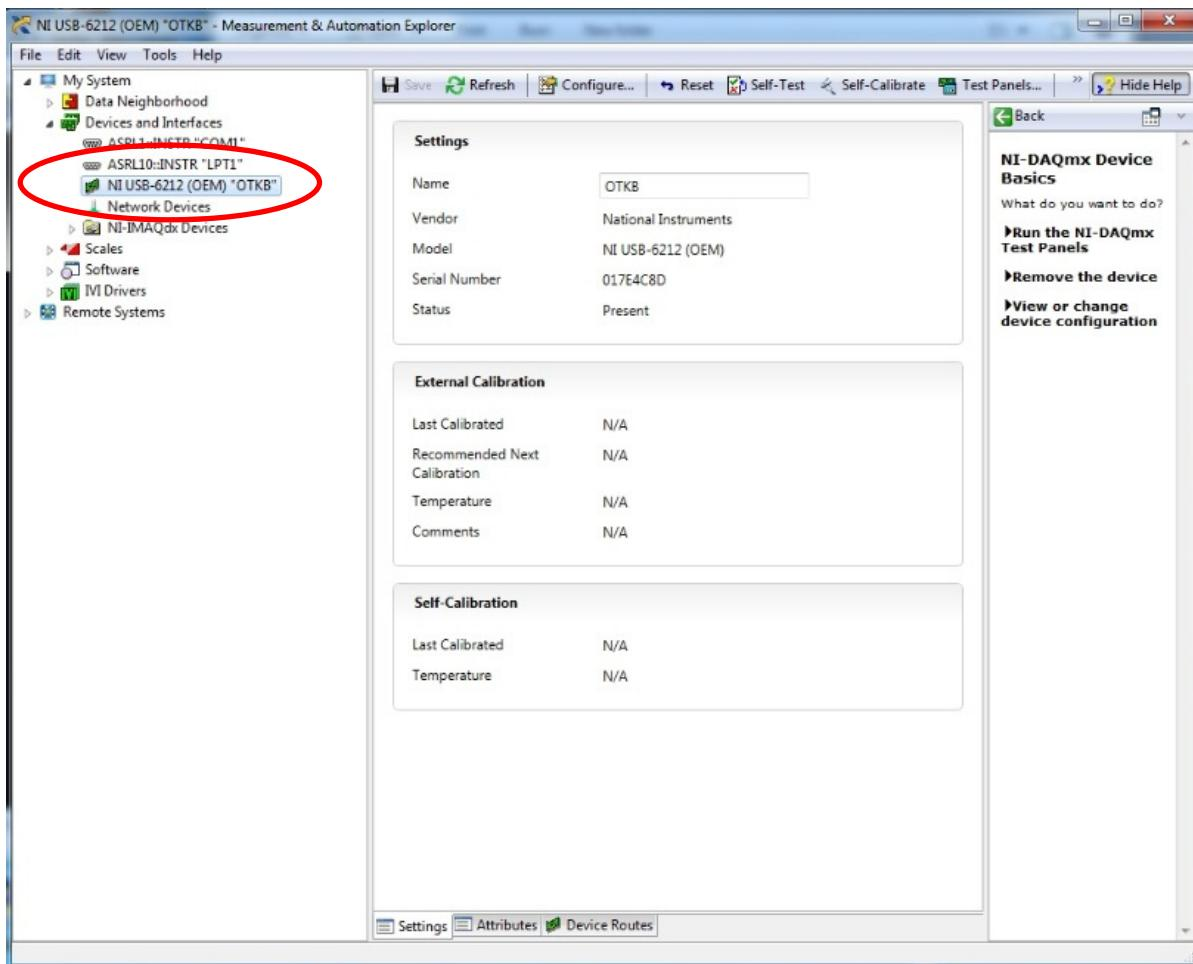

Figure 6 Configuration Window for DAQ Hardware using NI MAX
11. During the OTKBFM-CAL software installation the necessary National Instruments software had been automatically added to your PC (if it was not present already). Start the “NI MAX” tool, typically a link is found in your windows “All Program” list. Right click on the “NI USB-6212” device and rename it to “OTKB”. See figure 6. Close “NI MAX.”